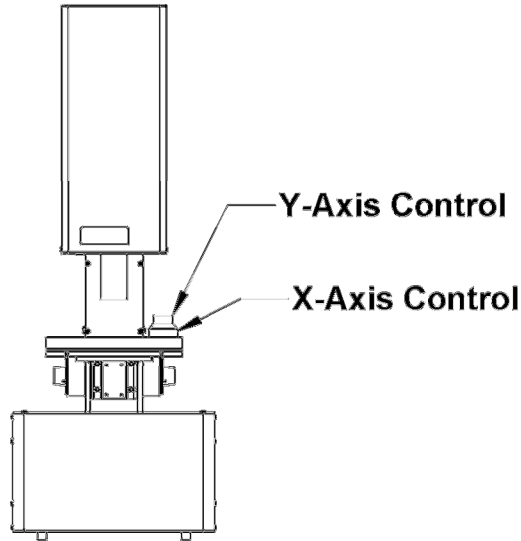

Figure 7 Stage axis controls
2. Using the manual adjusters, move the sample to the desired location on the screen. The adjustment knob controls both the X and Y-axis adjustments. The X-axis is controlled by the bottom part of the knob. The Y-axis is controlled by the top part of the knob. See Figure 7.